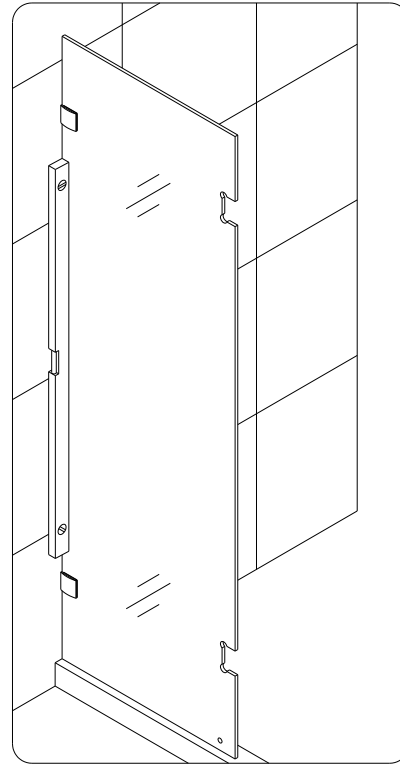

fig. 2
2. Place the **Stationary glass panel** with attached **Wall Brackets** to the designated position on the threshold or tray, make sure it's leveled and plumbed and **mark** the position of the **Wall Brackets** on the wall. See Fig. 2 for details.